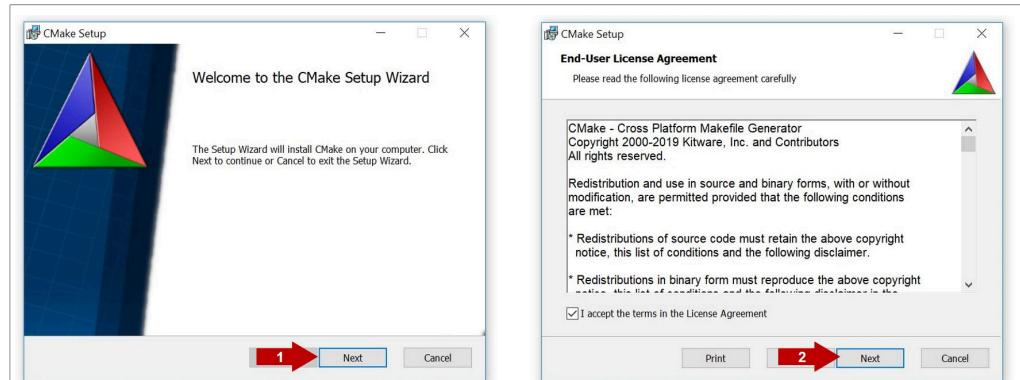

Figure 68. CMake installation wizard
5. The CMake installation wizard will open. Click (1) **Next** and (2) **accept** the End-User License Agreement as shown in Figure 68: